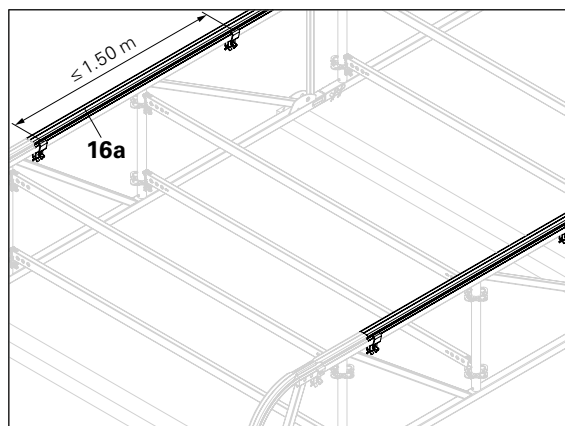

Fig. A2.02
- Next, position other keder tracks (**16a / 16b / 16c**) on the eave rail and fix them in place at the joint with a keder connector (**17**) at spacings of ≤ 1.5 m. (Fig. A2.02 + A2.02a)